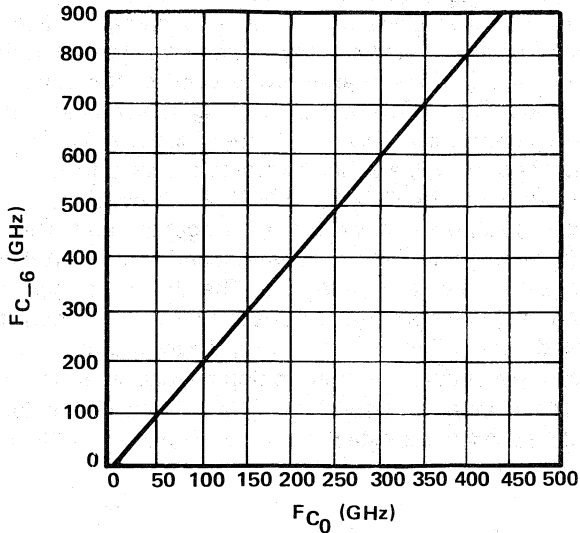

FIGURE 1. Relationship Between Cutoff Frequency at Zero and Six Volts in GaAs Varactor Diodes
- Cutoff frequency measurements ( $F_{C0}$ ) are made at 0 volts and then extrapolated to -6 volts. See curve of Figure 1 showing typical  $F_{C-6}$  (cutoff at -6 volts) versus  $F_{C0}$  (cutoff at 0 volts) performance curve.